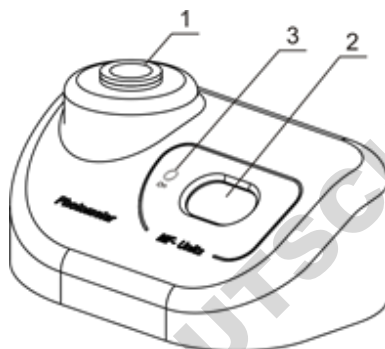

Figure 3. Front view
- Check if the **A-16** adapter is in the socket (fig. 3/1). The device is calibrated for operation with the glass tubes 16 mm in external diameter. To use different tubes, recalibrate the unit, see the **Calibration** section of the manual.
- 5.2. The following indication may be shown on the display (fig. 3/2):
**Note.** The display of **DEN-1B** switches off if the socket is empty for longer that one minute. Press the **On** key (fig. 3/3) to activate the unit.
- 5.3. Shake the tube with the solution. It is recommended to use a vortex for shaking, e.g. **Biosan V-1 plus**. Insert the tube into the socket of densitometer (fig. 3/1). The McFarland value for the solution will be shown on the display (fig. 3/2).
- 6.6.2. **Transparent standard.** Display shows **0.00** indication. Insert standard for **0.00** value into the socket (fig. 3/1) of the unit. If the standard for 0.00 value is not available, fill the tube (of the kind that is used for operations) with distilled water. Use the tube as the **0.00** value standard. Press **Install** button to save empty socket value. Display shows next required calibration value.
- 6.7. **Common calibration rules.** Display shows indication of necessary calibration value. Insert the necessary standard into the socket (fig. 3/1) of the unit and press the **Install** button to save the value for current standard.